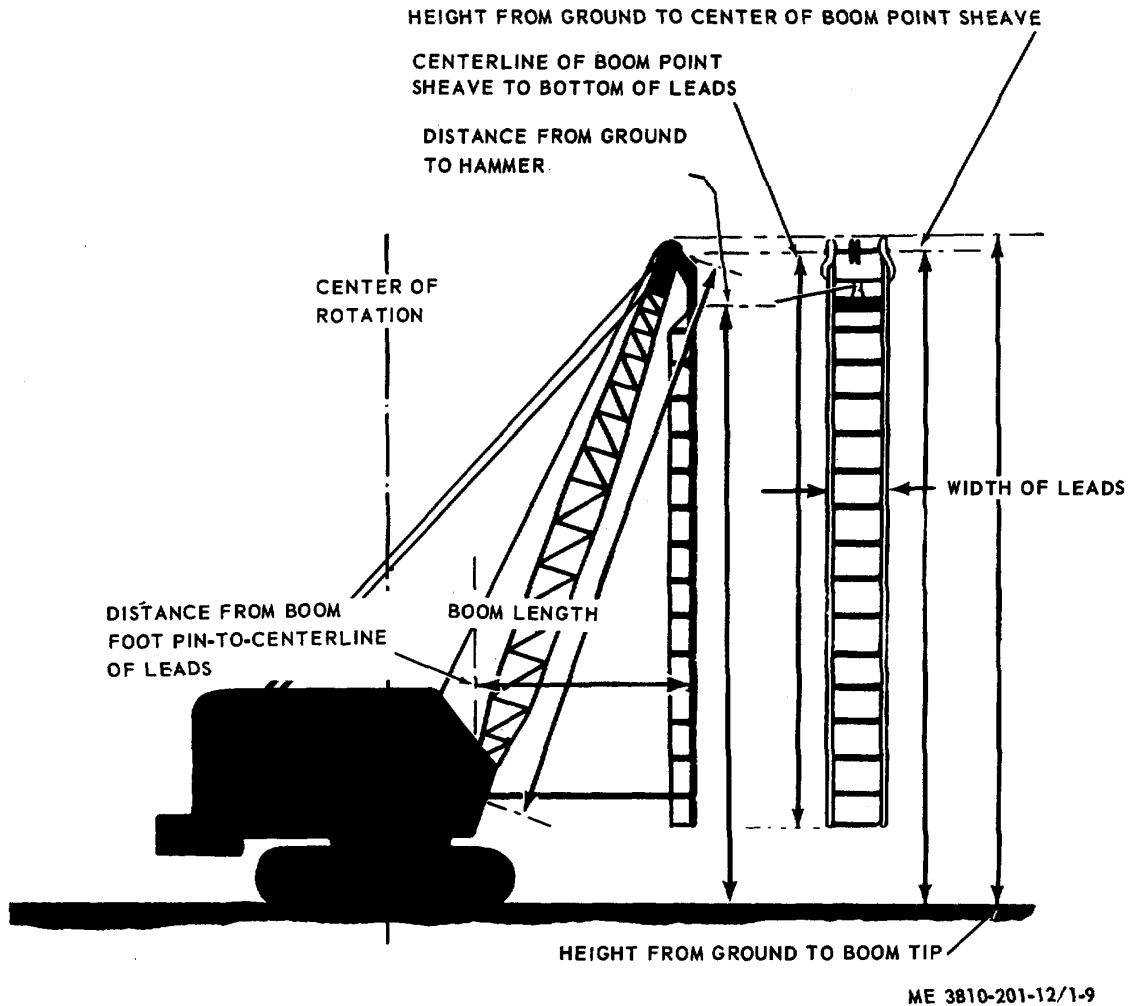

Figure 1-9. Piledriver clearance diagram
(25) *Piledriver clearances.* Piledriver clearances are illustrated in figure 1-9 and dimensions are listed below.